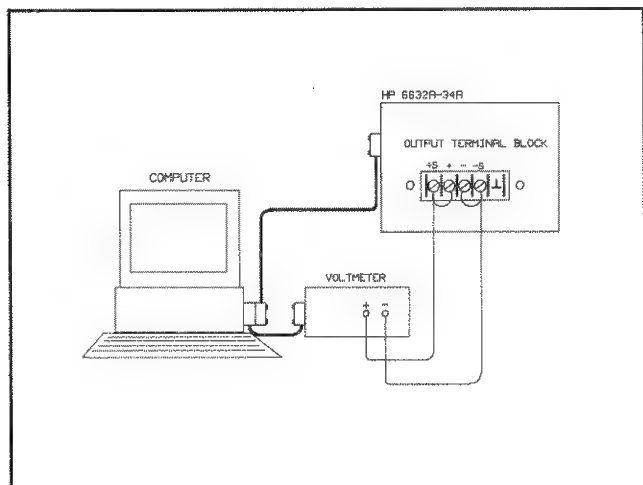

Figure A-1. Setup for Voltage Calibration
1. Disconnect all loads from your supply and strap the supply for local sensing. Connect the voltmeter to the +S and -S terminals as shown in the calibration setup—Figure A-1. See Table A-2 for a list of equipment required.
The following calibration program can be used as is, provided you have an HP Series 200 computer with the BASIC programming language and an HP 3456A voltmeter. The calibration program is written with the assumption that your supply is at address 705 and the voltmeter is at address 722. The program will prompt you to make voltage and current calibration connections as shown in Figures A-1 and A-2.